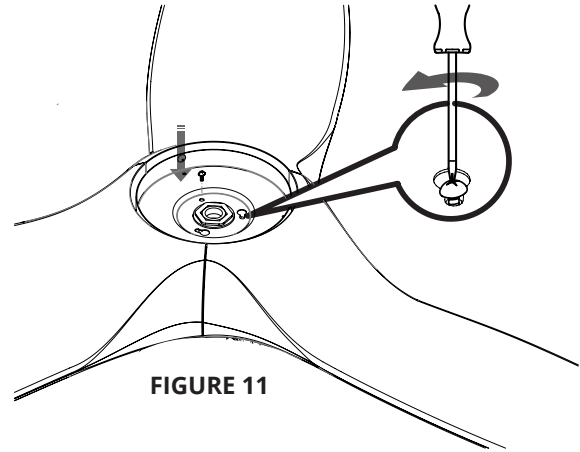

FIGURE 11
1. Remove one of the three mounting plate screws from the mounting ring and loosen the other two screws (Do not remove). (Fig. 11)